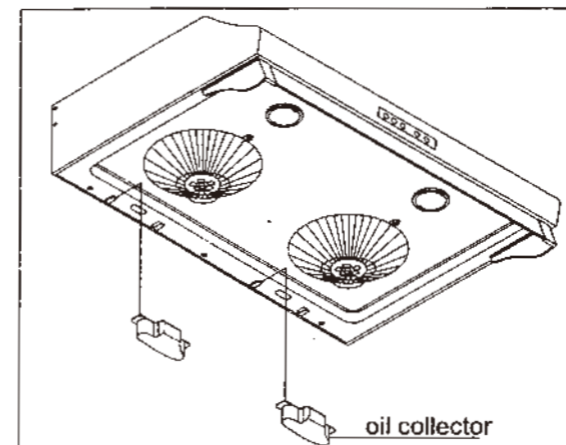

Fig. 19 Hang up the oil collectors
13. Place the two oil collectors as shown. (Fig. 19)